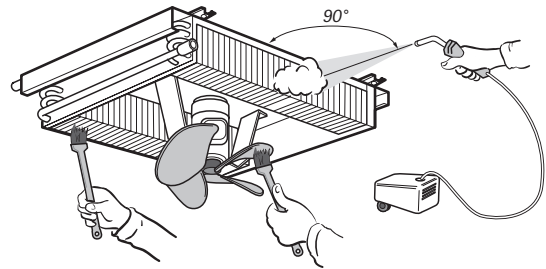

Figure 12. Cleaning the heat exchanger
3. The best method to clean the fin heat exchanger is to use compressed air or a high pressure washer. Angle the nozzle 90° to the surface of the fins to prevent damaging the fins, see figure 12.
Table 2. Dimensions, weight and volume, see the figure 12.